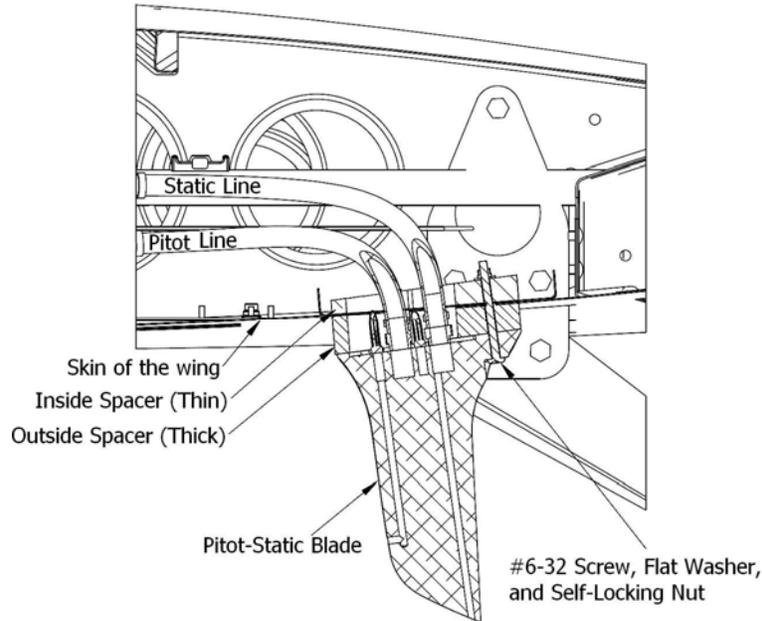

Figure 30-4 Pitot-Static Blade Installation Detail
3. Insert the inside spacer in to the wing, aligning it with the cutout for the pitot-static blade. See Figure 30-4 for details on installing the inside washer.
4. Assemble the outside spacer (thick) to the pitot-static blade as shown in Figure 30-4.